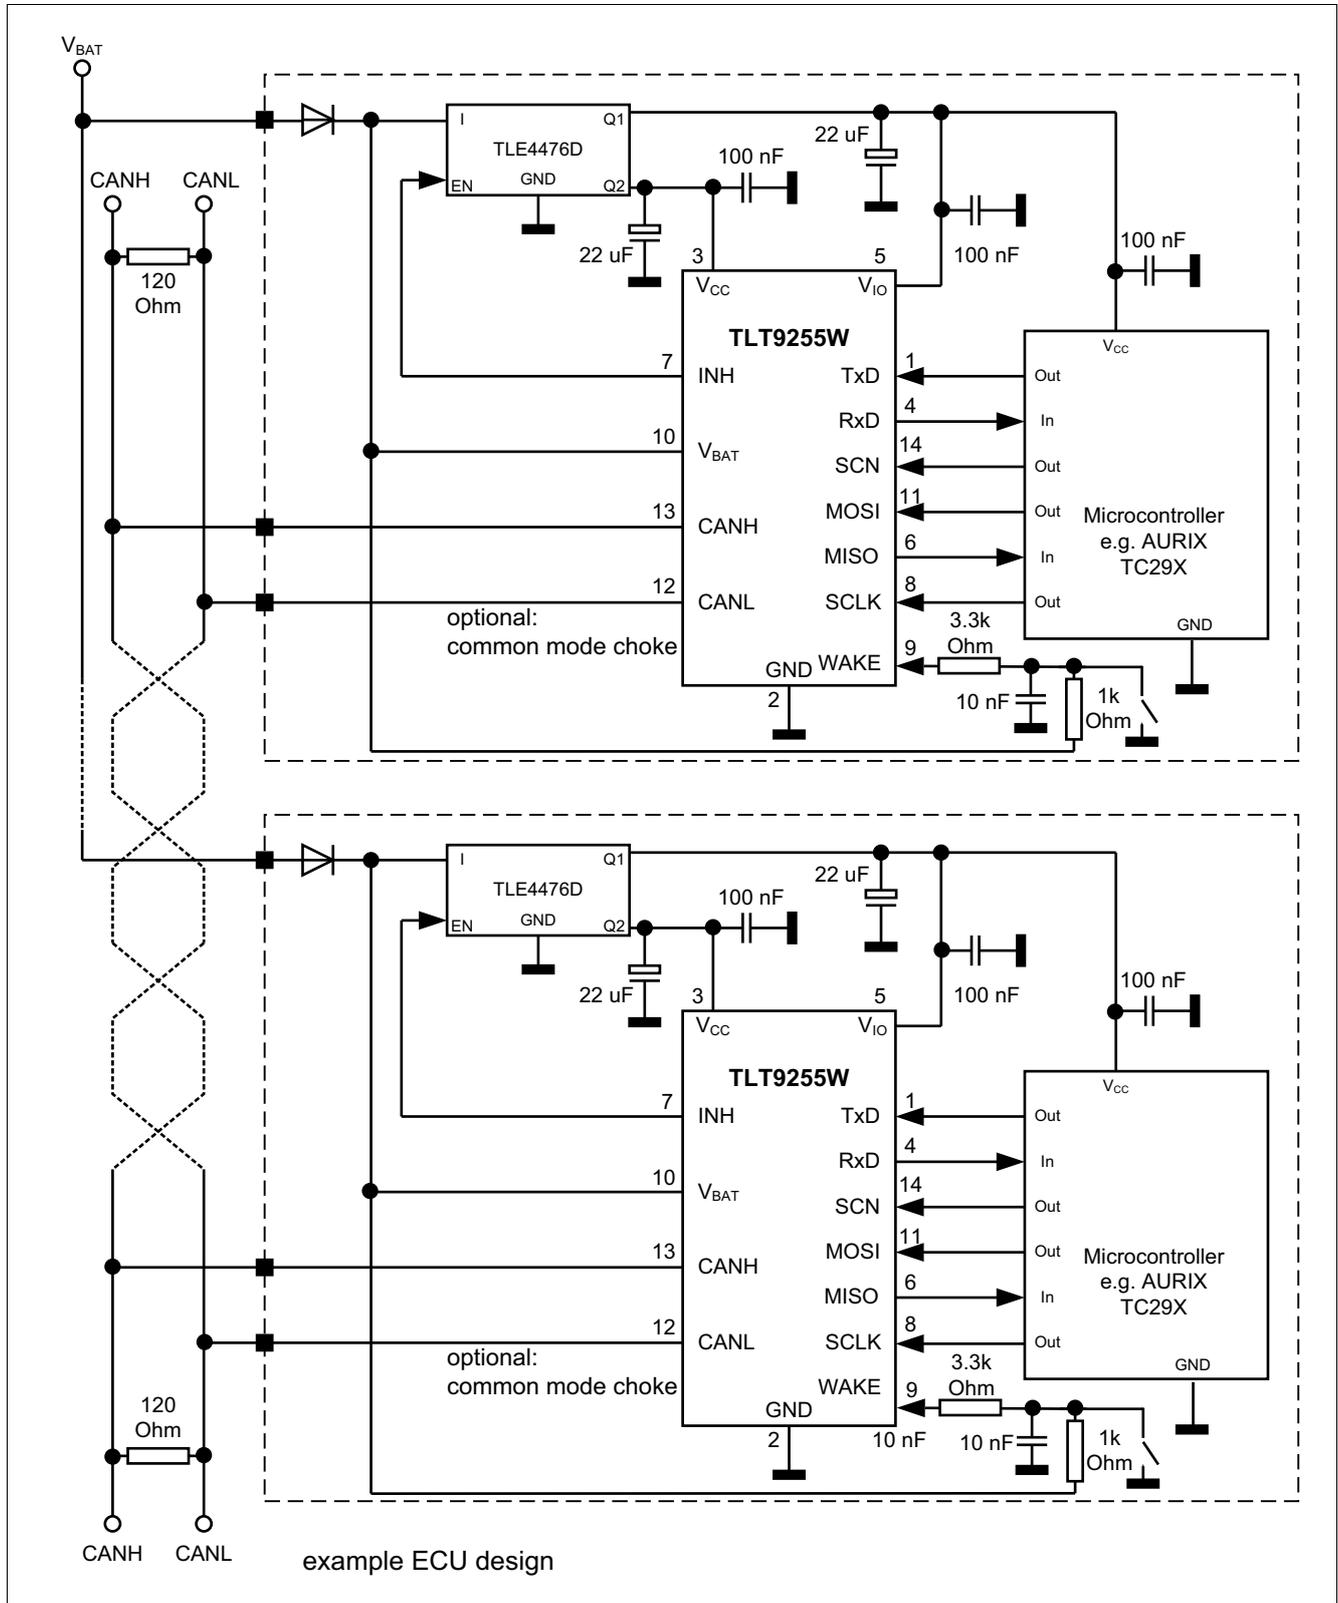

Figure 53 Application circuit
1) 10 nF capacitor and 3.3 kΩ resistor required (see Figure 53).
To adapt the digital input and output levels of the TLT9255W to the I/O levels of the microcontroller, connect the power supply pin  $V_{IO}$  to the microcontroller voltage supply (see Figure 53).